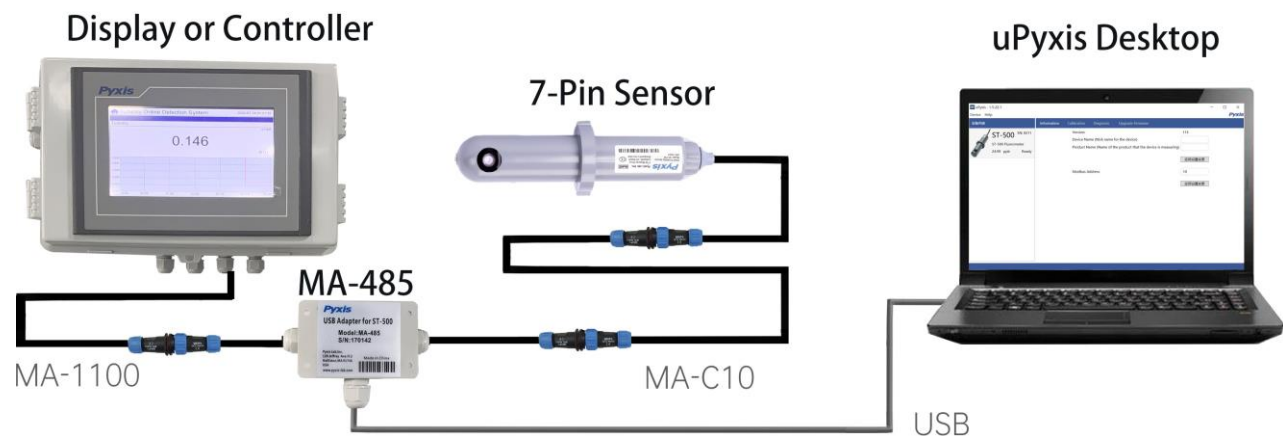

Figure 14. 7-Pin Sensor with MA-485 and uPyxis Desktop
3. On uPyxis® Desktop App, click Device→ **Connect via USB-Bluetooth** or **Connect via USB-RS485** (Figure 14).
4. If the connection is successful, the ST-500 Series and its Serial Number (SN) will be displayed in the left pane of the uPyxis® window.